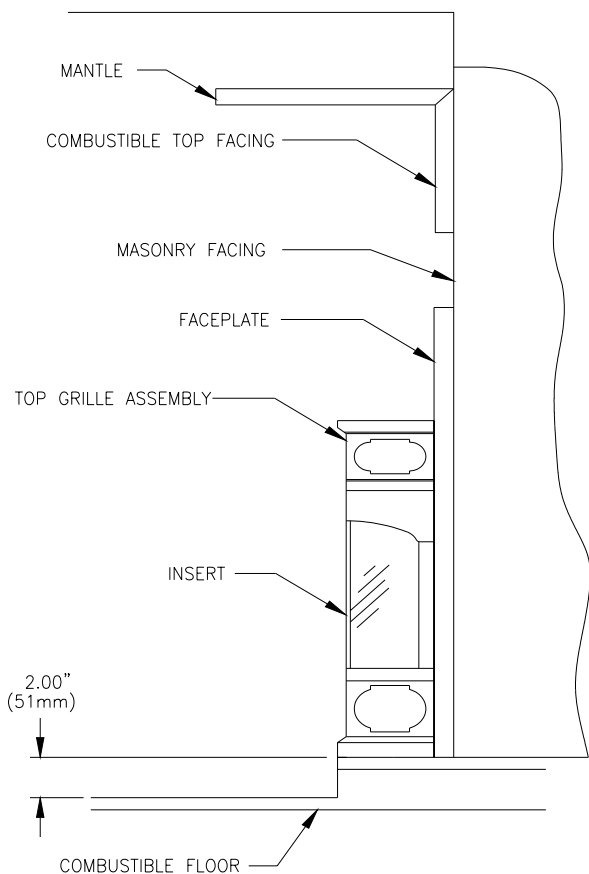

Figure 5a
E. Floor	2" (51mm) (see Figure 5a)